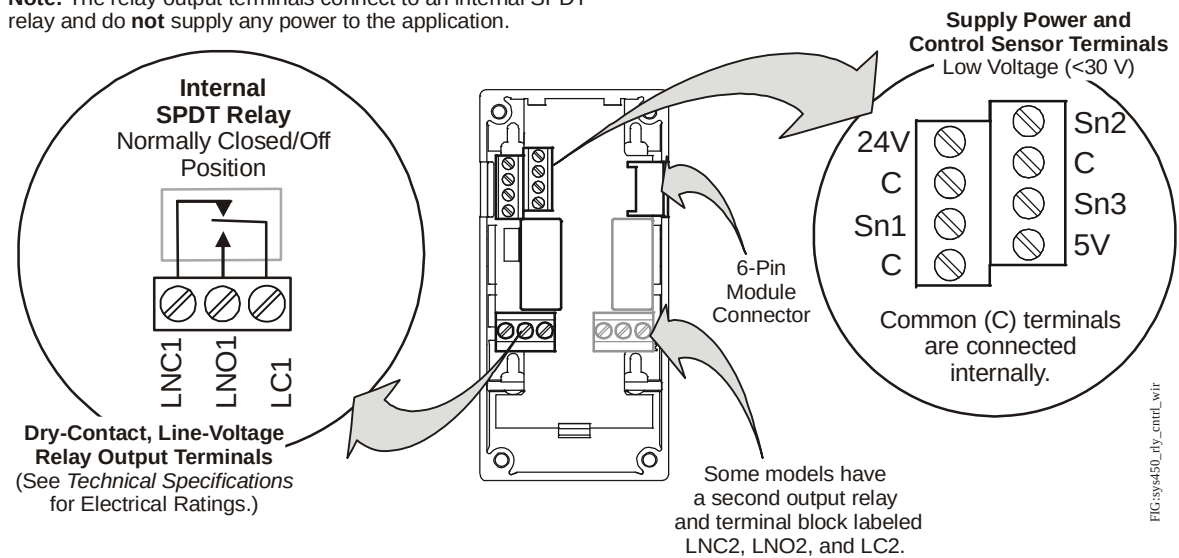

Figure 2: C450CxN-2 Wiring Terminals
See Figure 2 and Table 1 for electrical termination locations and wiring information. See Technical Specifications on page 23 for electrical ratings.
1. See Internal SPDT Relay insert in Figure 2 for more System 450 relay contact and terminal information. See Technical Specifications for SPDT relay electrical ratings.